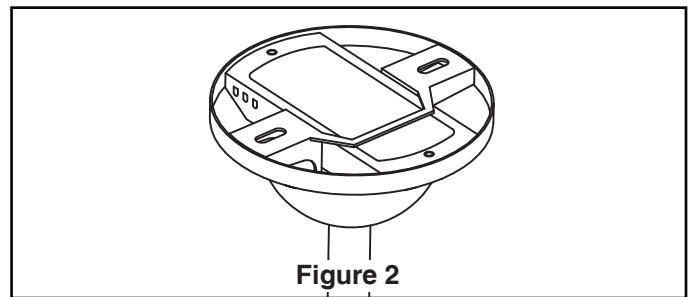

Figure 2
- Once the connection has been made, slide the receiver into the hanger bracket, taking care not to pinch the wires. The canopy comes up to cover the receiver and hanger bracket. (Figure 2)